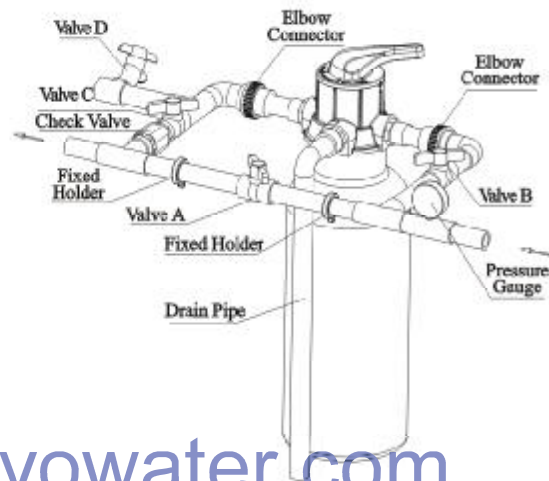

Figure 1-2
②Pipeline connection
- a. As Figure1-2 shows, install a pressure gauge in water inlet.
- A. Close the inlet valve B & C, and open the bypass valve A. After cleaning the impurities in the pipe, close the bypass valve A. (As Figure 1-2 shows, the same as below)